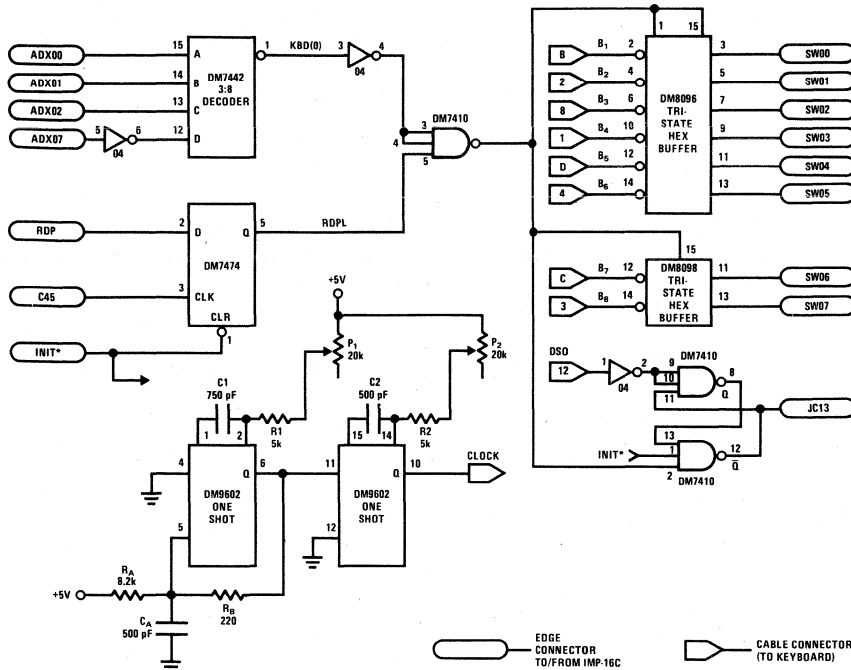
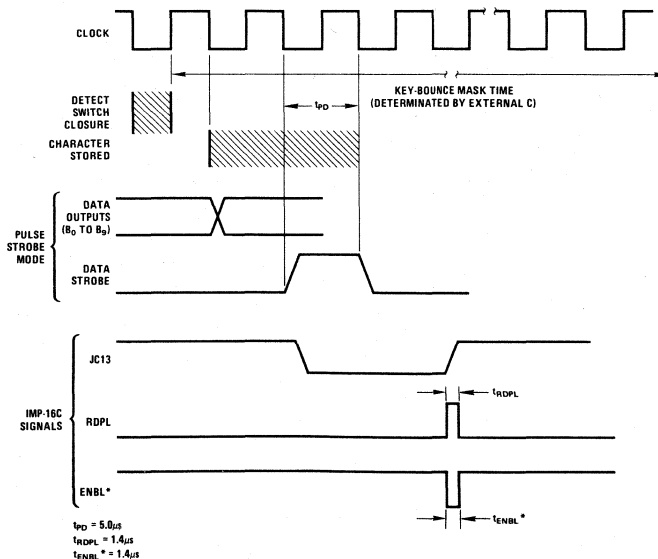

FIGURE 3. Text Editing Keyboard (TEK) Interface Logic for IMP-16C
FIGURE 4. MM5740/IMP-C Timing Diagram
In the following sample interface design the MM5740 chip and several discrete components are mounted on a communications keyboard. A cable from the 40 pin connector on the keyboard to an 8 1/2" x 11" interface board provides the physical communications link to the processor. The interface board has space available for components to implement a cassette and CRT interface for text editing applications. Pages of text could be stored as cassette records, called up by the keyboard and displayed on the CRT. Appropriate keyboard commands could be programmed to edit the page. Lines could be inserted, deleted, copied or moved as required. The finished page could be restored on the cassette. Figure 3 is a schematic diagram of the keyboard interface logic board.
The BOC instruction is essentially a test for keyboard character ready. The data strobe output (DSO) from the keyboard (cable connector pin 12) is stored in a set-reset latch built from cross coupled NAND gates (see Figure 3). This is because the DSO pulse width is one clock period or 5.0µs and the processor might not detect DSO in the required time. Refer to Figure 4 for IMP-16C/MM5740 timing. The complement output of the latch (Q) is connected to jump condition 13 (JC13). The BOC instruction tests for JC13 and branches to the PC relative address specified in the displacement field if the condition is true. Normally JC13 is true; when a key is pressed DSO goes high which forces Q low. The jump condition will then be false and the next instruction executed. This next instruction is a RIN 0 which takes the character from the keyboard encoder (B₁ to B₉) into AC0. Thus, this program is in a one-word BOC loop until a key is pressed.
The MM5740's clock input (CLK) is provided by a dual one shot (DM9602) connected as an oscillator. A 200 kHz square wave is generated using the logic shown in Figure 3.